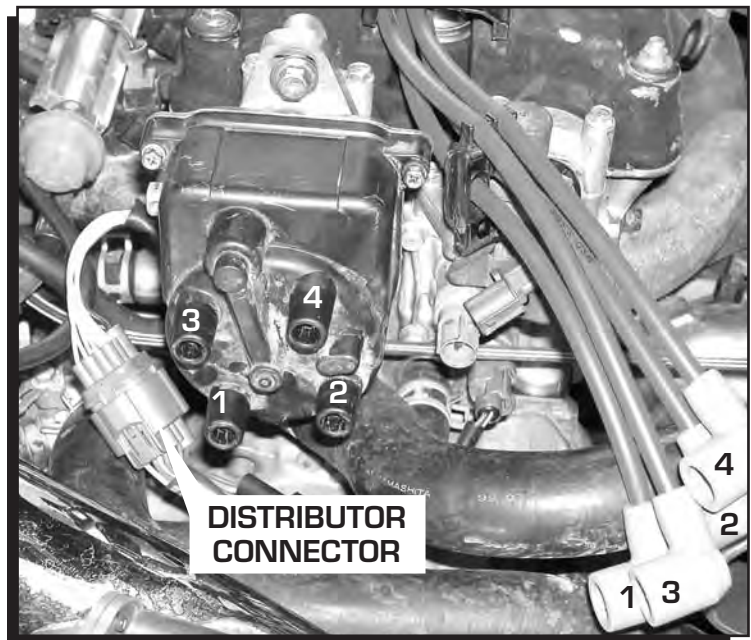

Figure 1 Removing the Wires and Factory Distributor.
2. Mark the location of each spark plug wire, then remove the wires from the distributor (Figure 1).